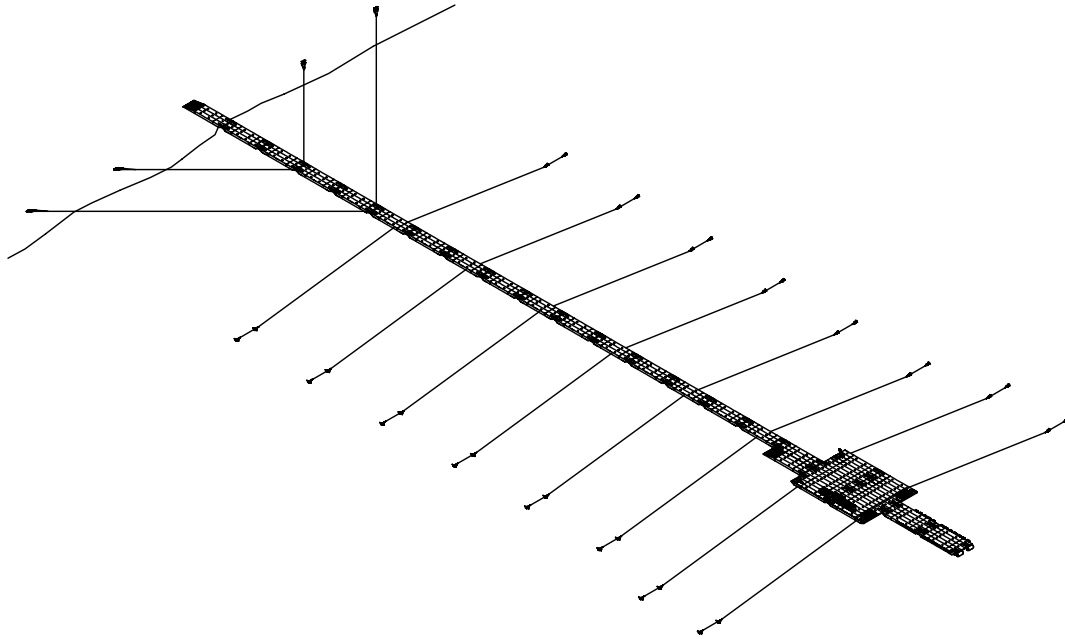

Figure 29. Mooring Leg Deployment Configuration
9. Deploy remaining offshore mooring legs to anchor FC platform (figure 29).